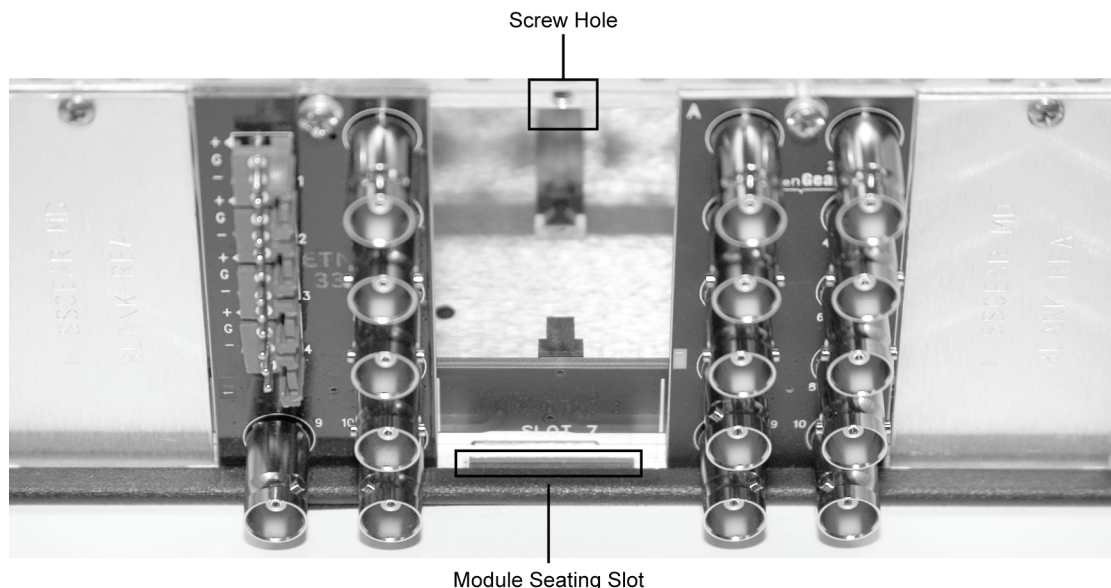

Figure 3. Rear Module Installation in a DFR-8310 Series Frame (FSR-6201 and FST-6202 not shown)
4. As shown in **Figure 3**, seat the bottom of the rear module in the seating slot at the base of the frame's back plane.